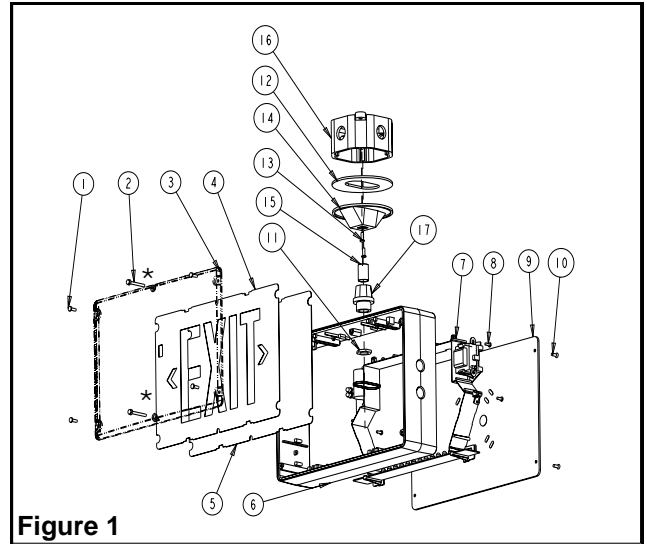

Figure 1
- e. Remove knockout on top of the frame. Determine which holes in the exit frame will be used for mounting (see fig.1). Support frame by two blocks of wood, maximum one inch apart. Strike knockouts with a hammer and screwdriver. Clear holes of burrs to allow proper assembly of nipple/wire assembly.
5. Install the lens by using the 6 tamper-proof screws. The o-ring has to be installed on the center screws between the lens and the frame as shown in figure 1.